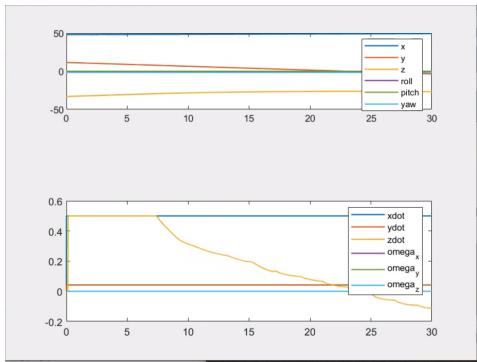

Figure 7: Position and velocities during the Minimum Altitude Vehicle task imposed 10m threshold
- **5 m:** The same as before, the activation is active at the first instant because again the initial position is below the minimum altitude. This control task is a safety one, so every time the UVMS is under the minimum altitude, the activation is active and it has the highest priority. Again, it seems no reasonable to perform such big gap with the seafloor (Reported graph, Figure 7).